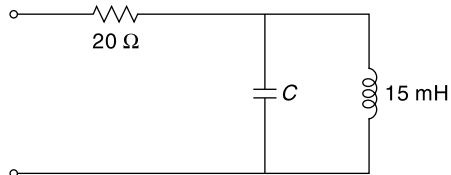

Fig. 5.77 Circuit diagram for Ex. 5.131
5.131 For the circuit shown in Fig. 5.77, find the value of C such that the input current is 45° out of phase with the input voltage. Assume $\omega = 2 \times 10^3 \text{ rad/sec}.$